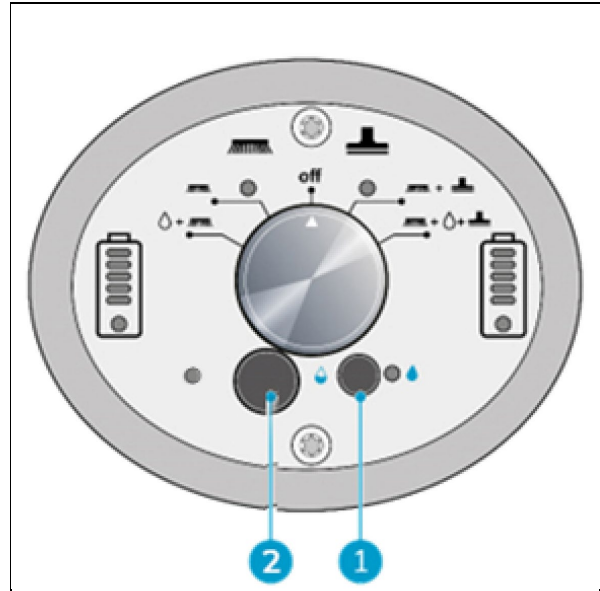

Figure 21
2. Turn on the ECO mode by pushing the ECO button, after you have selected your cleaning mode. (Figure 21, pos 1).
4. To adjust water flow when ECO mode is activated, you can remove the rubber cap (Figure 21, pos 2) and use a small flathead screwdriver to change the flow rate on the dial below the cap. See flow rate table on the next page.